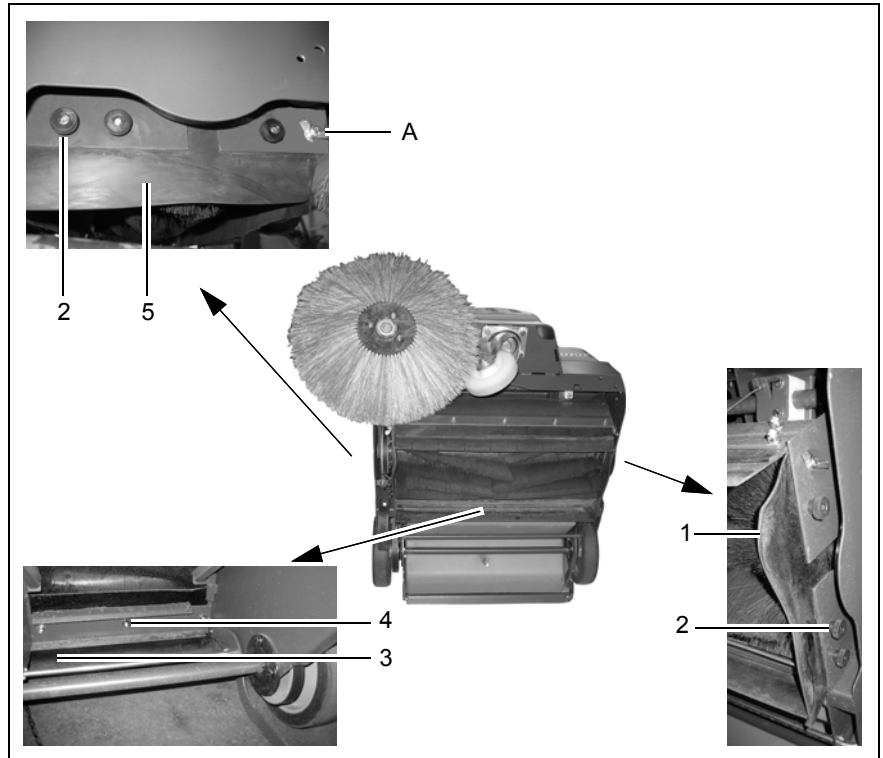
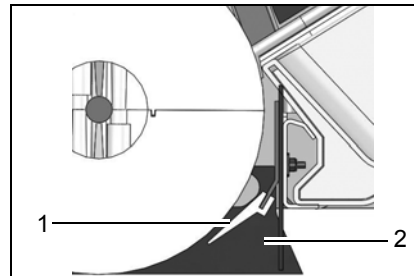

Fig. 22
Fig. 23
2. Unscrew the screw connections (Fig. 22/2) in the side aprons (Fig. 22/1+5).
3. Change the sealing strips and adjust the side aprons (Fig. 22/1+5): There must be approx. 1 - 2 mm clearance to the floor.
4. Screw the screw connections (Fig. 22/2) back in the side aprons (Fig. 22/1+5). Also screw the ground of the wing nut at Position A (Fig. 22/A).
6. Unscrew the screw connections (Fig. 22/4) in the rear aprons (Fig. 23/1+2).
7. Change the sealing strip and adjust the rear apron (Fig. 22/3): The clearance of the rear apron (Fig. 23/2) from the ground must be 1 - 2 mm.
8. Screw the screw connections (Fig. 22/4) back in the rear aprons (Fig. 23/1+2).